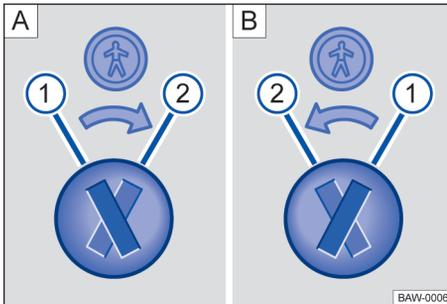

Fig. 43 Childproof lock: **A** rear left door, **B** rear right door.
Key for → Fig. 43:
- Insert the key blade into the childproof lock groove to enable or disable the lock → Fig. 43.